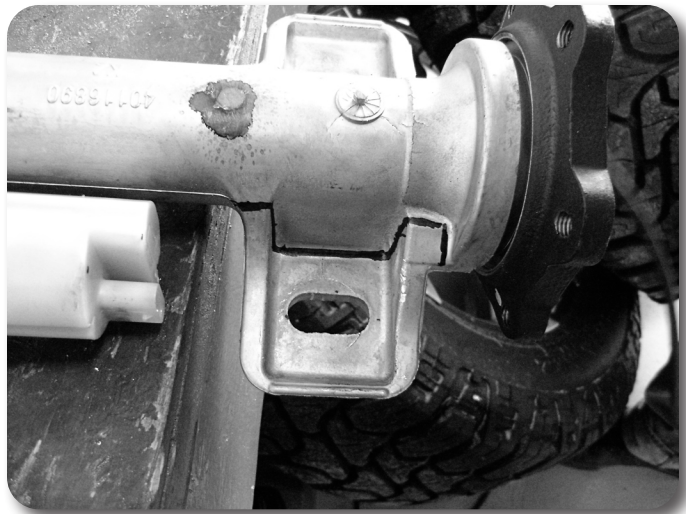
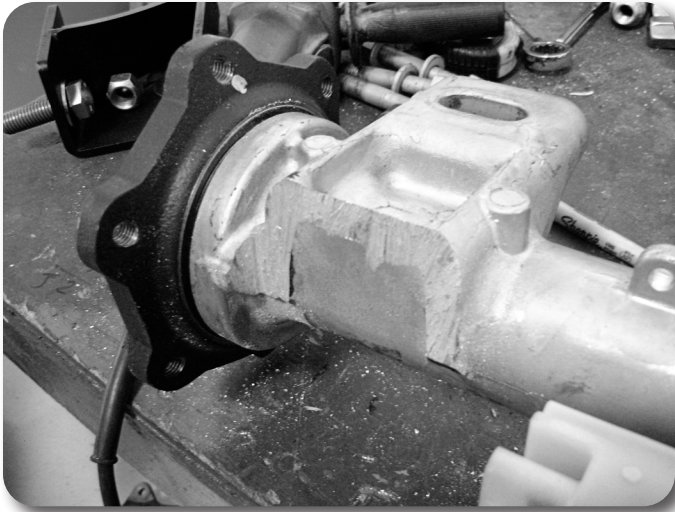

Figure 19
Figure 20
33. The differential housing needs to be modified to clear the electronic steering rack in the relocated position. Mark the passenger side mount as shown in Figure 19 and using a reciprocating saw make 2 cuts perpendicular to the mounting surface. Figure 20